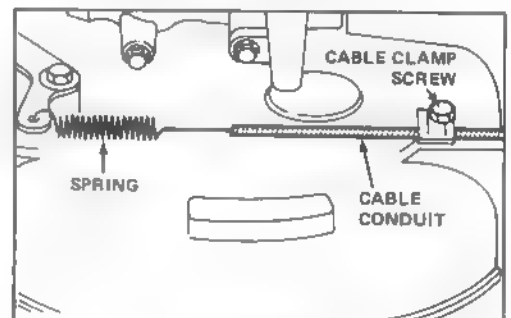

Figure 26
2. Loosen cable clamp screw until brake cable conduit slides (Fig. 26). Pull cable to remove slack, but do not put tension on spring. Tighten screw to lock adjustment in place.